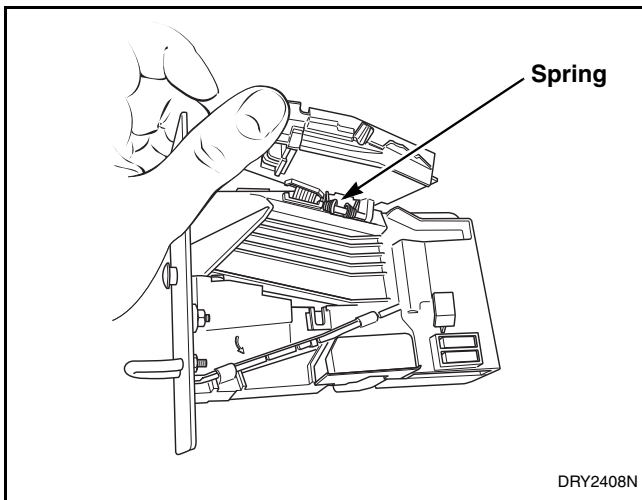

Figure 27
- Open cover of coin drop. Refer to Figure 27.